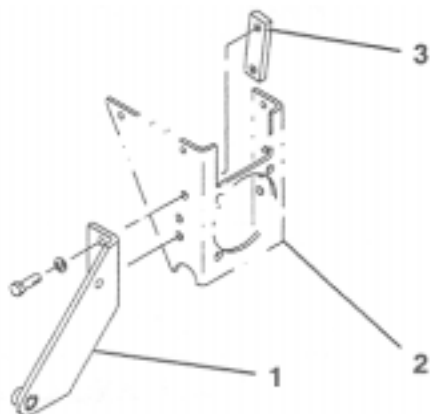

Figure 4
2. Assemble the left mounting bracket against the wheel motor mount with the threaded mounting block, 2 cap screws (1/2 x 1-1/2 inches), and lock washers (1/2 inch) (Fig. 4).